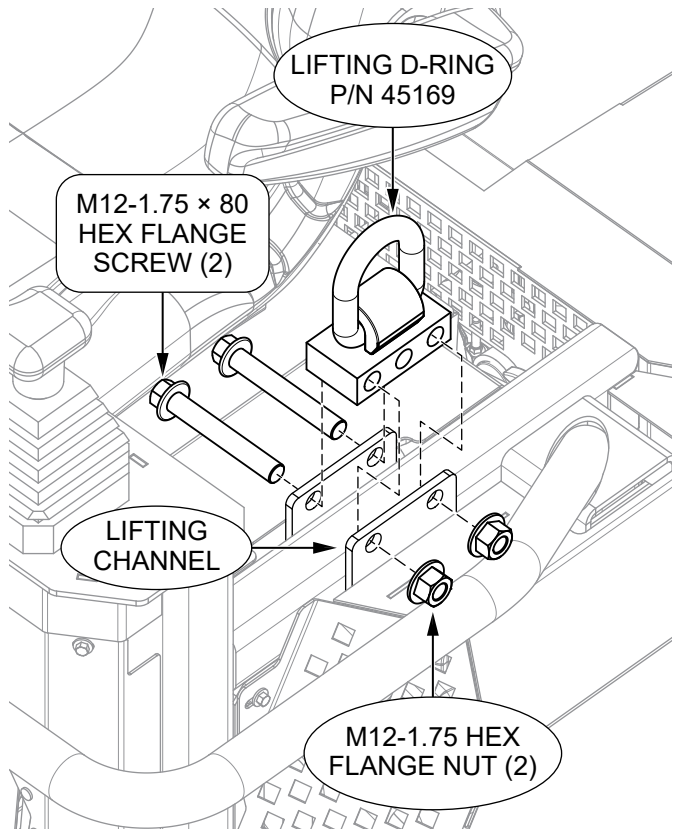

Figure 3. Install New Lifting D-Ring
2. Use the **two M12-1.75 × 80 hex flange screws** and **two M12-1.75 hex flange nuts** that were removed during the last step to secure a **new lifting D-ring (P/N 45169)** to the **lifting channel**. Torque the screws to **70 lbf-ft (94.9 N·m)**. See Figure 3.